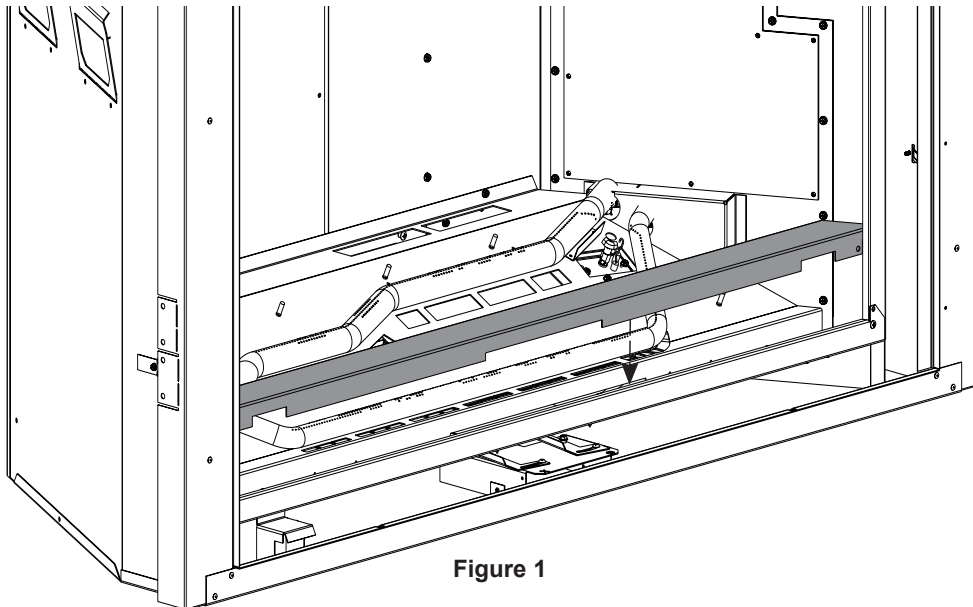

Figure 1
2. Place LINER as shown. **See Figure 1.**